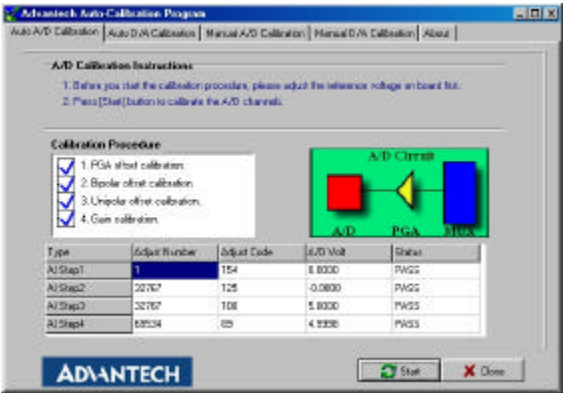

Fig. 5-10 A/D Calibration is finished
Step 8: Auto-calibration is finished. (Fig. 5-10)